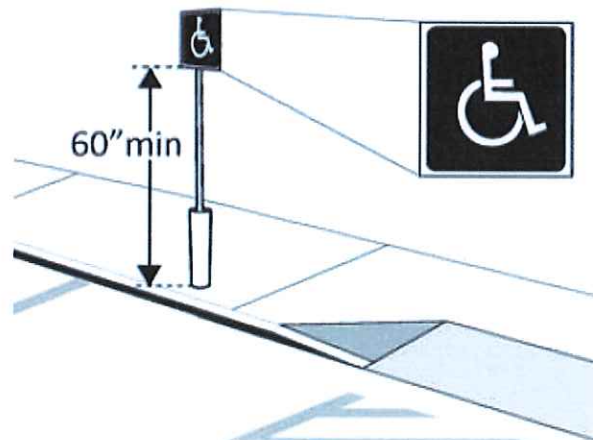

Figure 8
- Provide accessible parking signs in front of the parking spots a minimum of 60" above the ground (fig. 8).